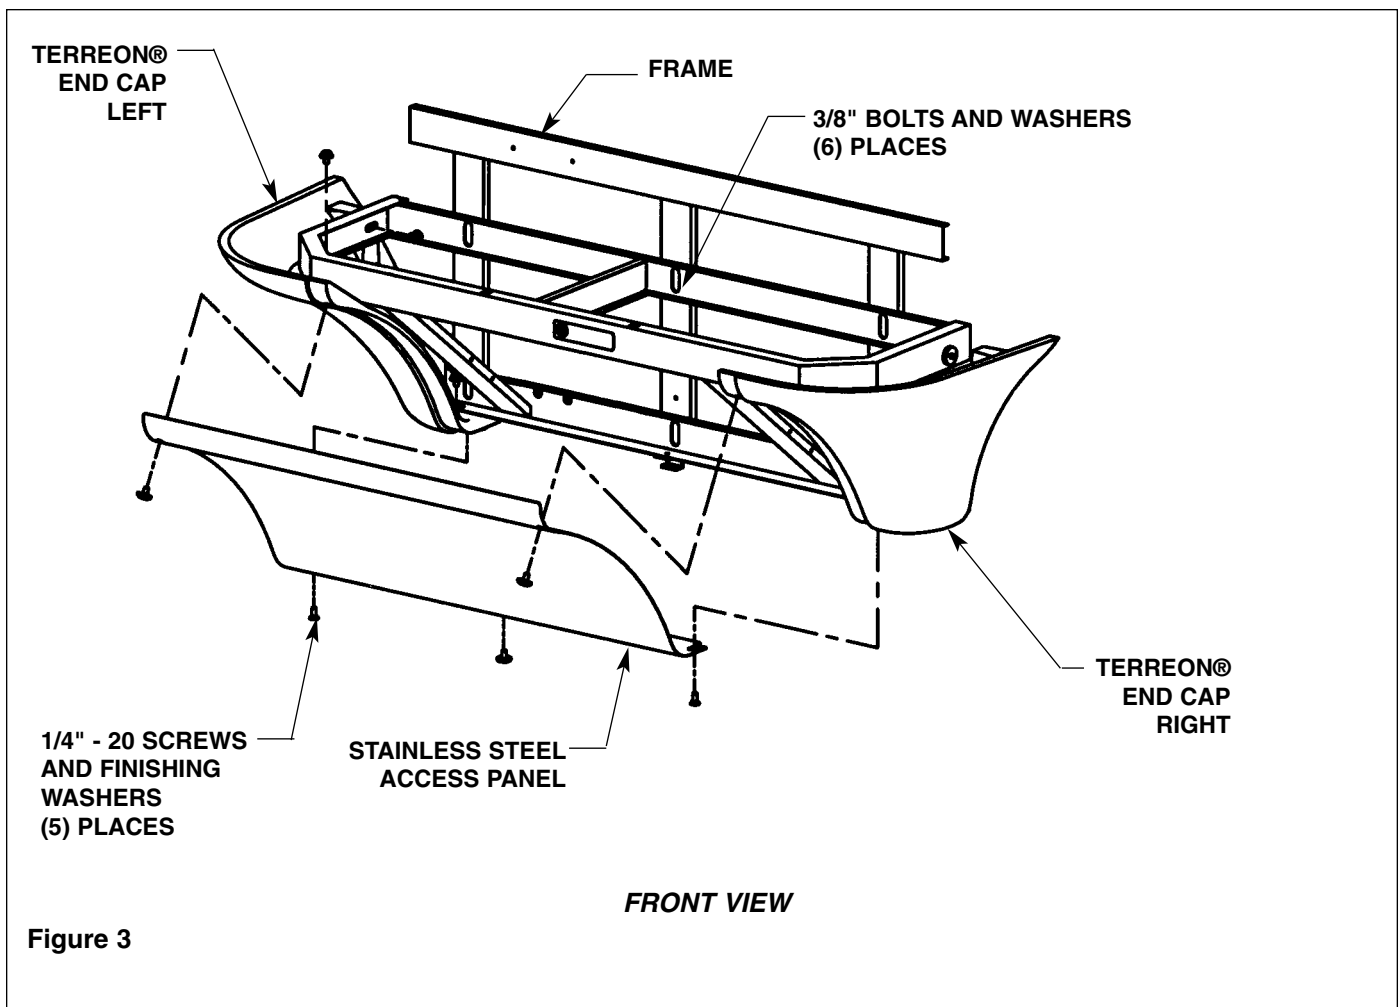

Figure 3
2. Remove the two top access panel screws and washers securing the access panel to the frame and remove the access panel (see Figure 3).
7. After testing is complete, reinstall access panel to frame. Fasten access panel with the five panel screws and washers provided (see Figure 3 on page 8).
Using a 5/32" Allen socket wrench, loosen, but do not remove the three bottom access panel screws. Remove the two top access panel screws and washers securing the panel to the frame and remove the access panel (see Figure 3 on page 8). Solenoids are located on left side of frame (see Figure 9).